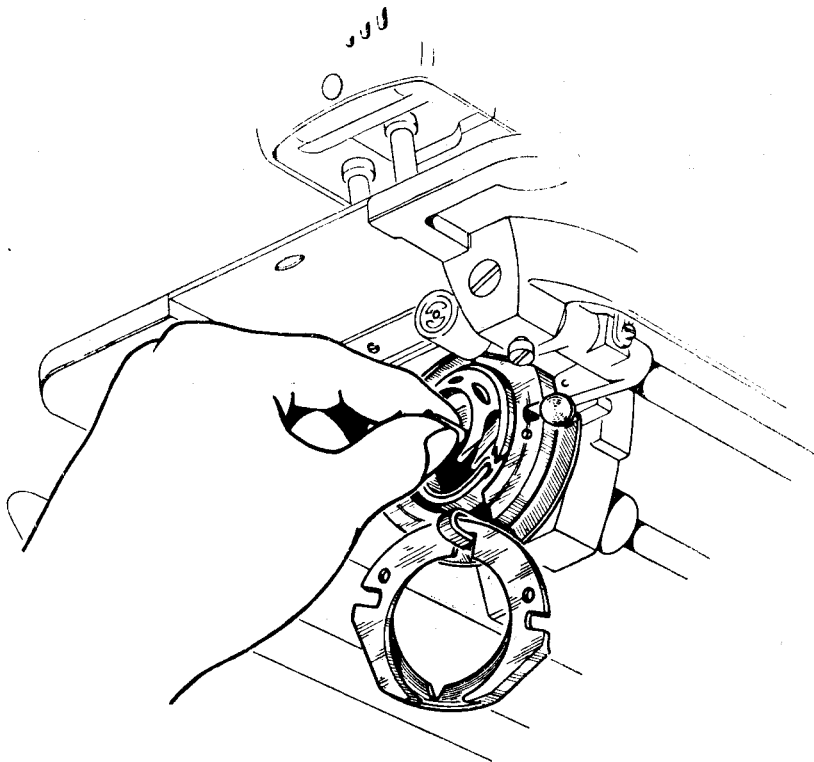

Fig. 12
- g. To replace the shuttle, insert it into the shuttle race with the thumb and forefinger of the left hand (see Fig. 12), fitting it without force into the place opposite the shuttle carrier.